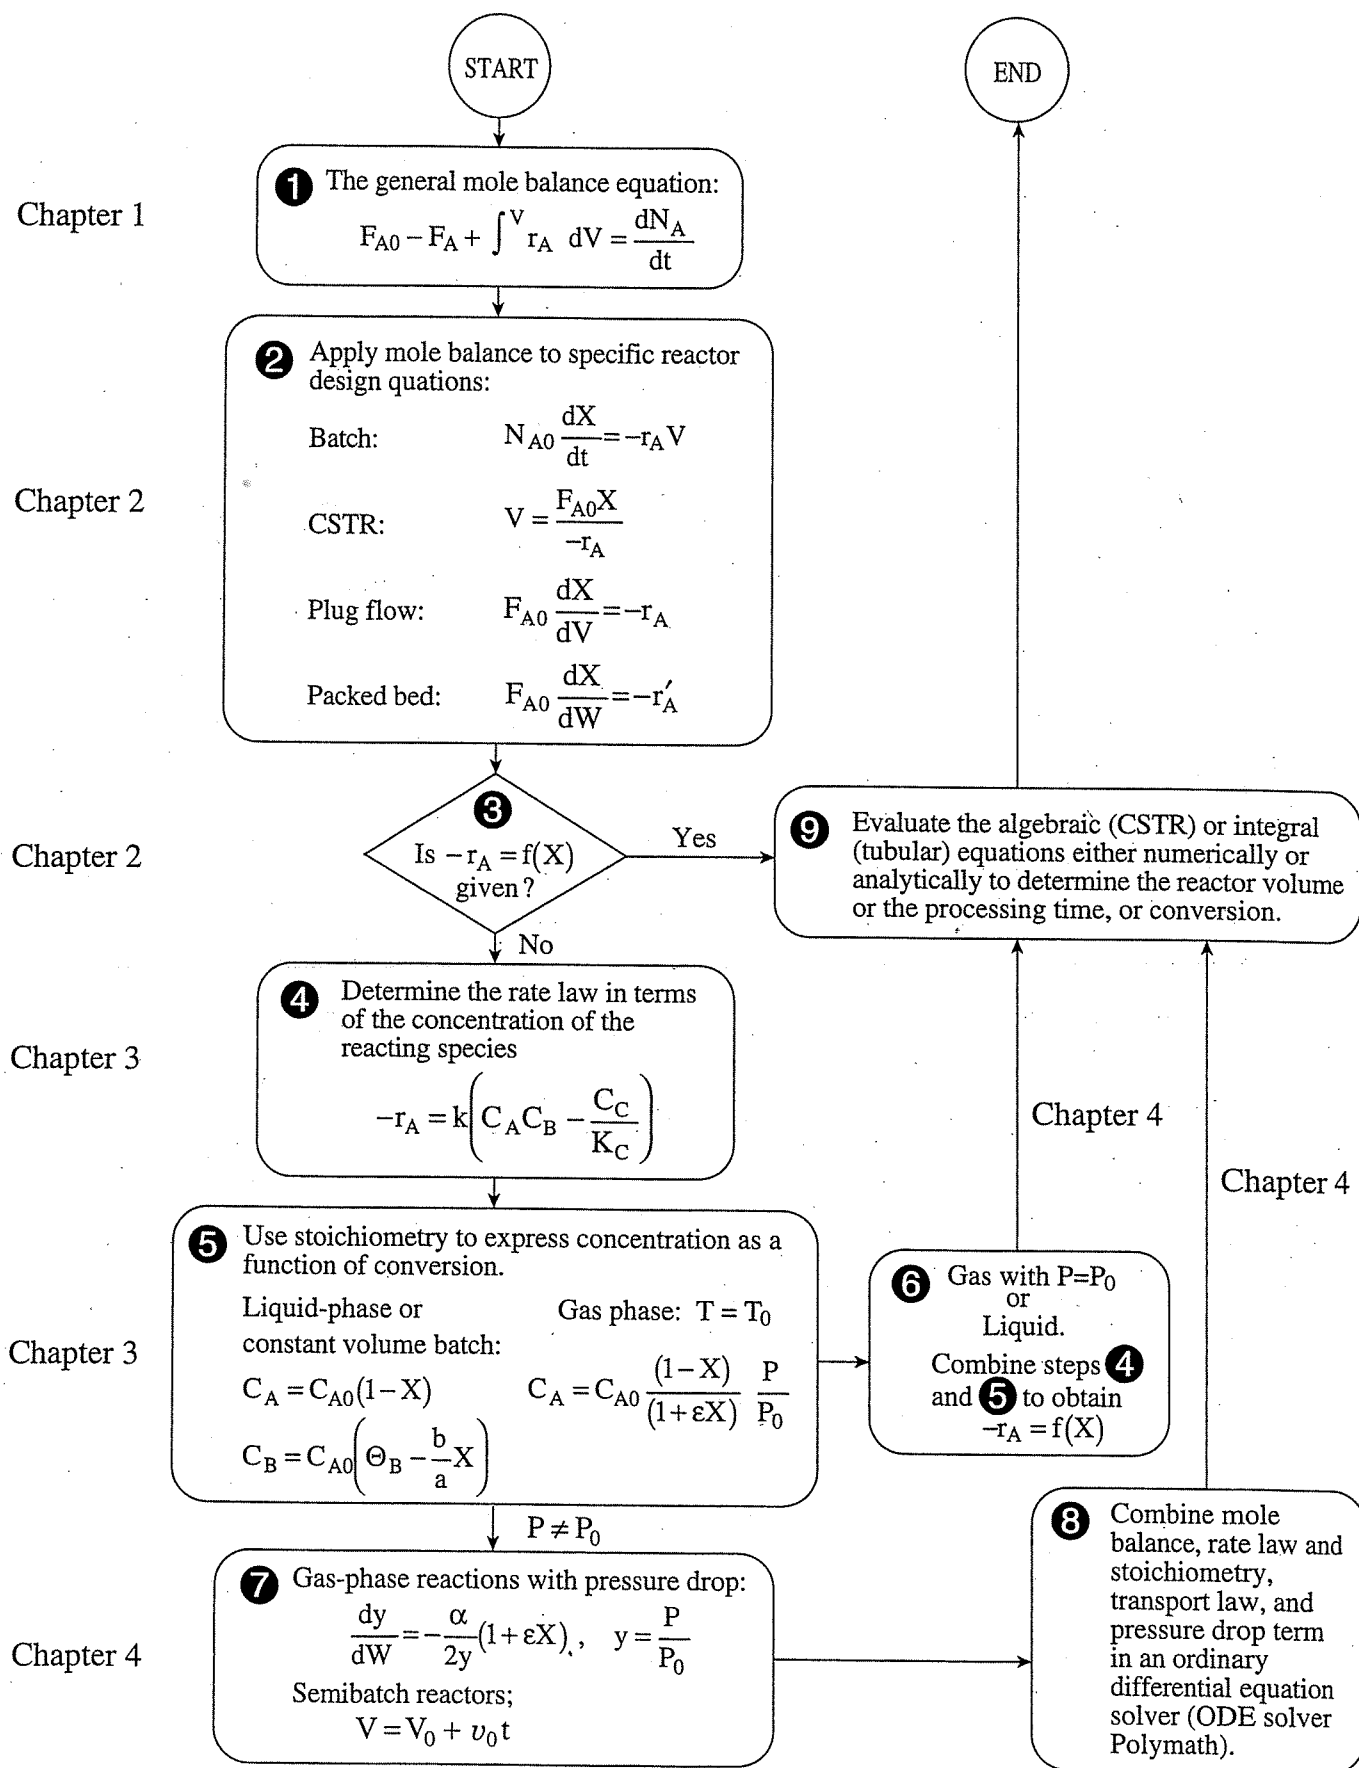

Figure 4-1 Isothermal reaction design algorithm for conversion.
- Fig. 4-1 } 1. mole balance (design eq.)